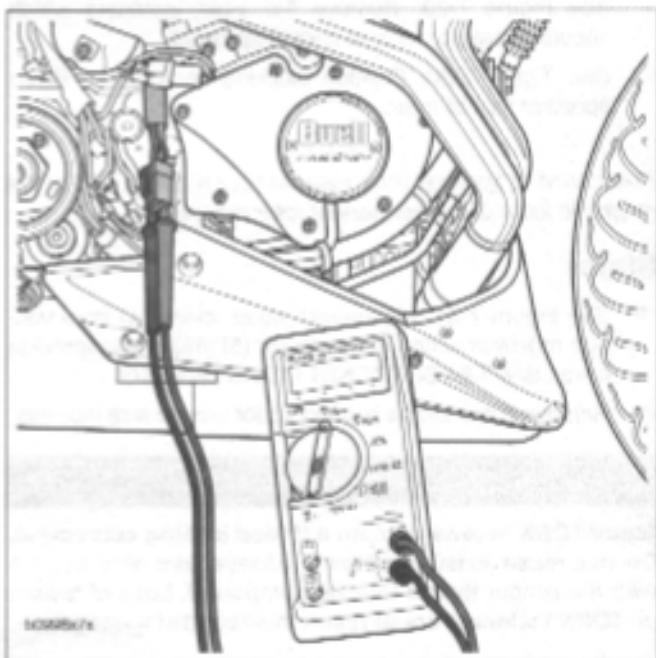

Figure 7-28. Check Stator AC Voltage Output
1. See Figure 7-28. Test AC output.